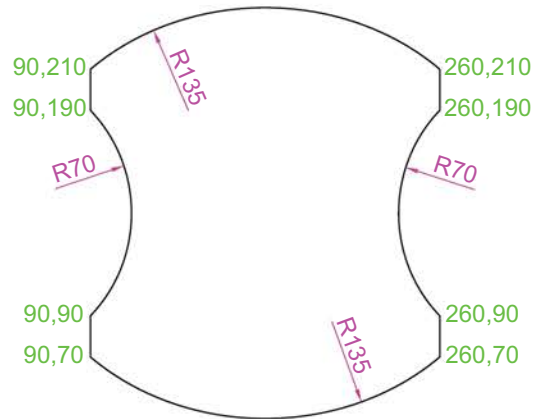

Fig. 4.24 Exercise 2
- With the **Line** and **Arc** tools, construct the outline given in Fig. 4.24.